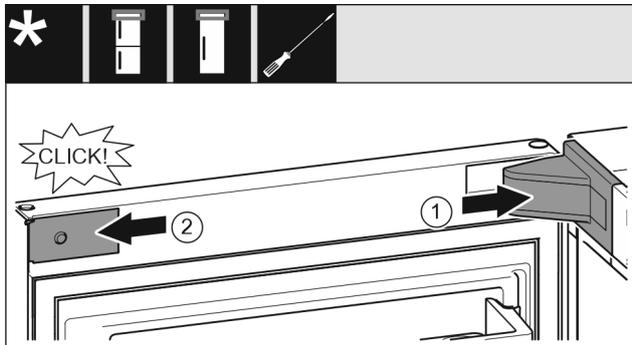

Fig. 65
- ▶ Put the swap bearing block cover Fig. 65 (1) on and engage, push apart carefully if required.
- ▶ Place the trim Fig. 65 (2) on the side and engage.